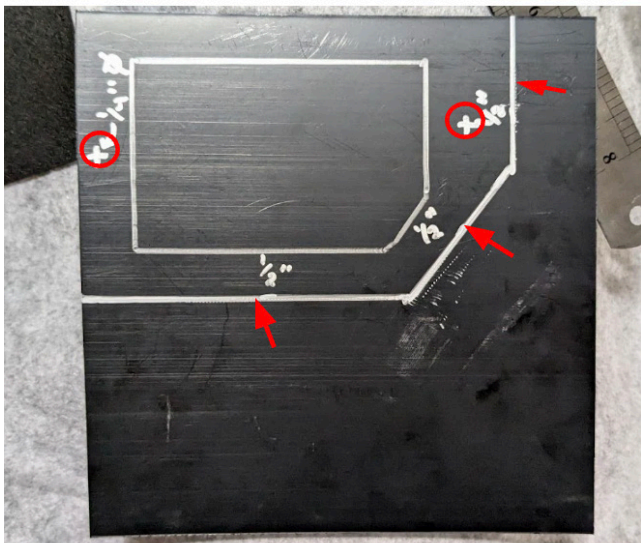

Figure 38.
30. Using a silver marker and ruler, offset the previously marked line 1/2" outboard from the closest part marked. Using scissors, cut along the offset line. Using a 1/4" drill bit, drill at the two (2) mounting hole locations circled. Figure 38.